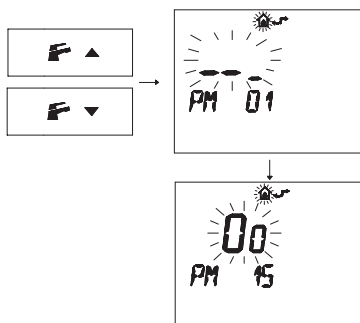

Fig. 8.3
- Press buttons **F** ↓ or **F** ↑ to display the "PM15" program that enables the external probe (Fig. 8.3).